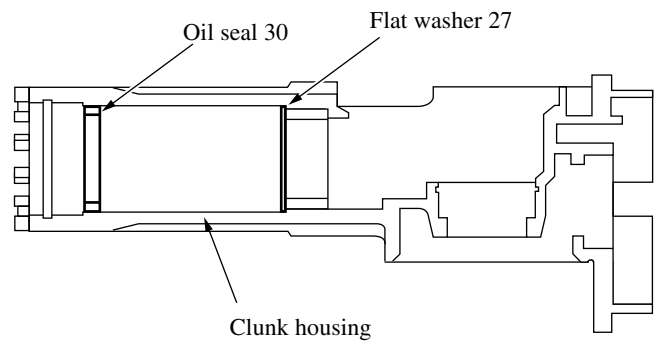

Fig. 12
- 1) After attaching Flat washer27 to Clunk housing, install Oil seal 30. ( See Fig.12)
NOTE: Check that Flat washer 27 is not inclining and is in a position shown in Fig. 12 .